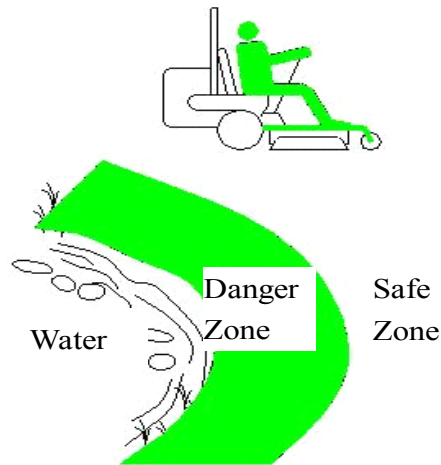

FIG 1
- Use a walk behind mower /or a hand trimmer near drop-offs, ditches, steep banks, or water. This area can be dangerous, see Figure 1.